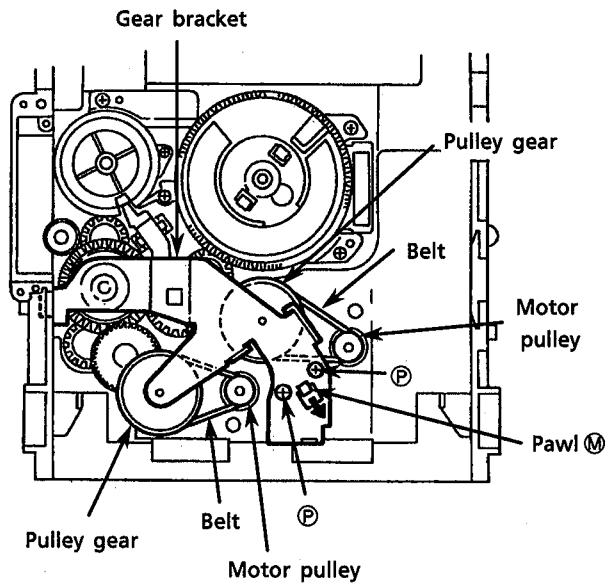

Fig. 44
(See Fig. 44.)
2. Press the pawl ④ securing the gear bracket to the arrow in the figure to remove the gear bracket. (See Fig. 44.)
4. Remove each belts from the both actuator motor pulleys and the pulley gears. (See Fig.44.)